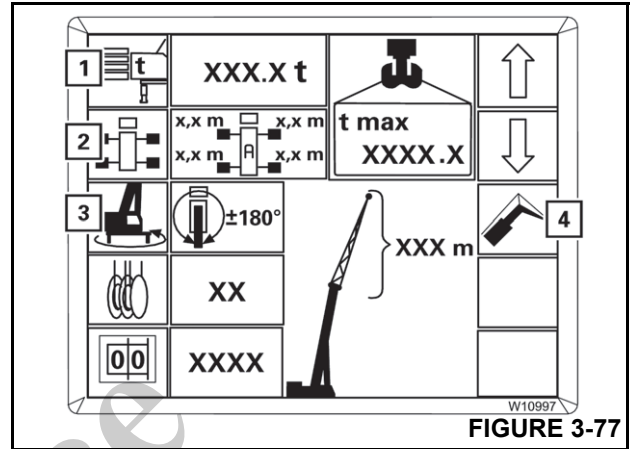

FIGURE 3-77
When re-entering the rigging mode completely, you can prevent already entered components from changing by making entries in the following order (Figure 3-77):
Press one of the buttons (1) to (4) (Figure 3-77) for the desired component.